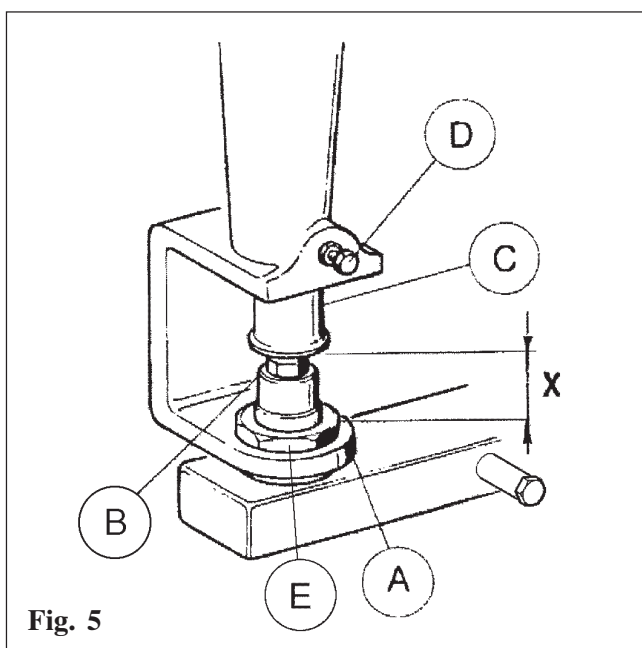

Fig. 5
F - Burner (Fig. 5)
- Unscrew the nut (Fig. 5 pos. E)